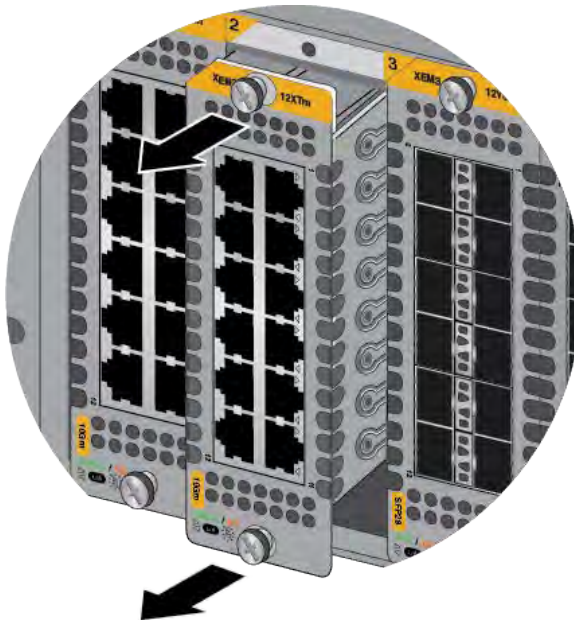

Figure 94. Disconnecting an Ethernet Module from the Chassis
5. Carefully pull on the screws on the faceplate to disconnect the module from the connector on the backplane in the chassis. Refer to Figure 94.